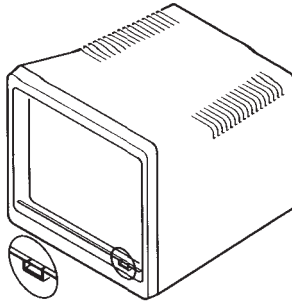

Figure 10-2.
3. Locate the connector socket on your monitor (on the right at the bottom of the display tube). If there is a plug in the socket, remove it (Figure 10-2).